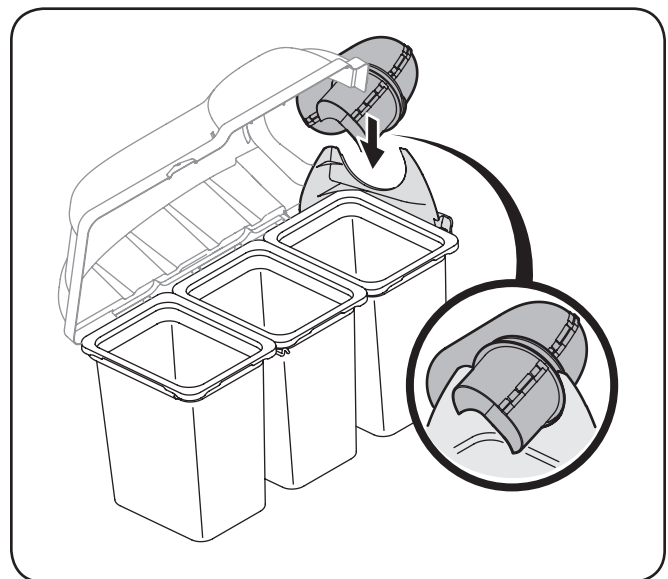

Figure 4-26
9. With the bagger cover open, install the upper chute over the chute adapter, and rest the top so that the chute support sits in the upper chute groove. See Figure 4-26.
Note: Make sure to align the upper chute with the ridges on the bagger support bracket, as shown in the inset of Figure 4-26.